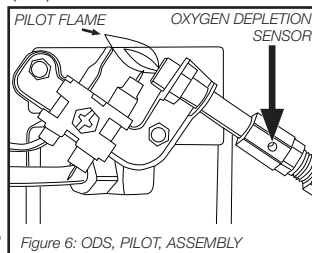

Figure 6: ODS, PILOT, ASSEMBLY
PRECAUTIONS TO BE TAKEN WHEN THE APPLIANCE IS NOT TO BE USED FOR A PERIOD OF TIME: Always keep the heater area clear and free from combustible materials, gasoline and other flammable vapors and liquids. Store heater when it has cooled in a zippered bag or other sealed dust free location between uses. Keep the vent areas (slots in the bottom and the top at the front of heater) clear at all times. Visually inspect the pilot flame and burner periodically during use. The pilot flame should be blue in color (not yellow) and will extend beyond the thermocouple. The flame will surround the thermocouple just below the tip, see Figure 6. A slight yellow flame may occur where the pilot flame and main burner flame meet. The burner should be bright orange (with a slight blue color around the border, a red-orange haze that is visible on the ceramic tile is acceptable) and without a noticeable flame. A blue flame that rolls out at the top of the ceramic tile indicates an accumulation of dust, lint or spider webs inside the casing assembly and main burner assembly. If the pilot is yellow or the burner has a noticeable flame, cleaning may be required. Use the following procedure to inspect the casing assembly and main burner assembly. It is necessary to periodically check the burner orifice and burner venturi tube to make sure they are clear of insects/ nests or spider webs that may accumulate over time. A clogged tube can lead to a fire.
8. Inspect and clean pilot (mounted to bracket) by using a vacuum or apply air pressure through the holes in the pilot indicated by the arrows in Figure 6. **WARNING:** Never use needles, wires, or similar cylindrical objects to clean the pilot to avoid damaging the calibrated orifice that controls the gas flow.